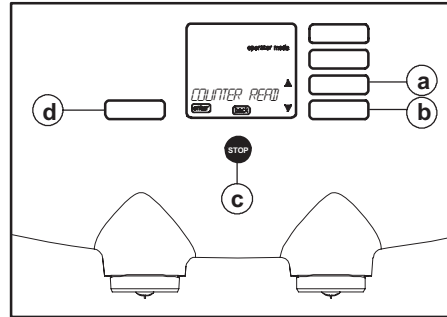

Fig. 28 Program buttons
In the operator menu, the selection buttons become programming buttons (fig. 28).
- Enter button (fig. 28 d), to confirm your selections.
- Scroll buttons \updownarrow (fig. 28 a and b) (navigation/selection), to page through the menu and select options.
- Stop button (back) (fig. 28 c), to cancel your changes and go back one level in the menu and to exit the operator mode.
- The display shows: operator mode "COUNTER READ", scroll arrows ▲, ▼, enter and back (fig. 28).